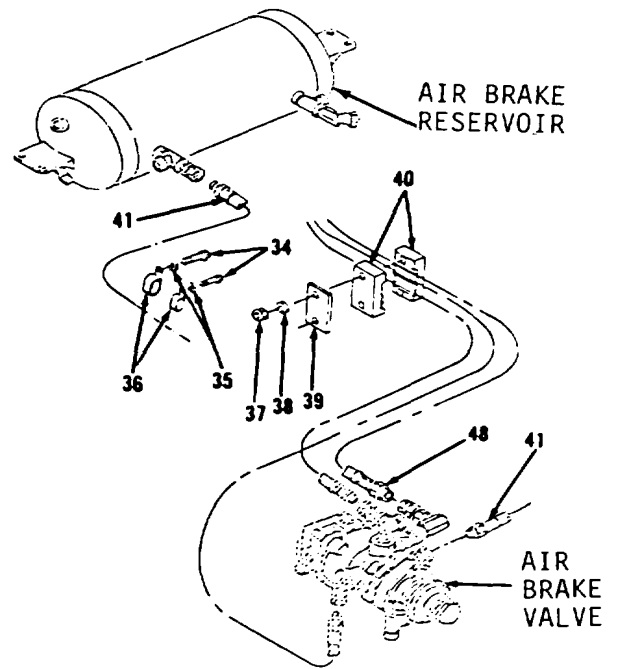

Figure 6-22.
9. Connect hose assembly (48, Figure 6-22) to air brake valve.
10. Install hose assembly (41) on air brake valve.
11. Install clamp (40).
12. Install plate (39), washer (38) and nut (37).
13. Install clip (36), washer (35) and bolt (34).
14. Connect hose assembly (41) to air brake reservoir.